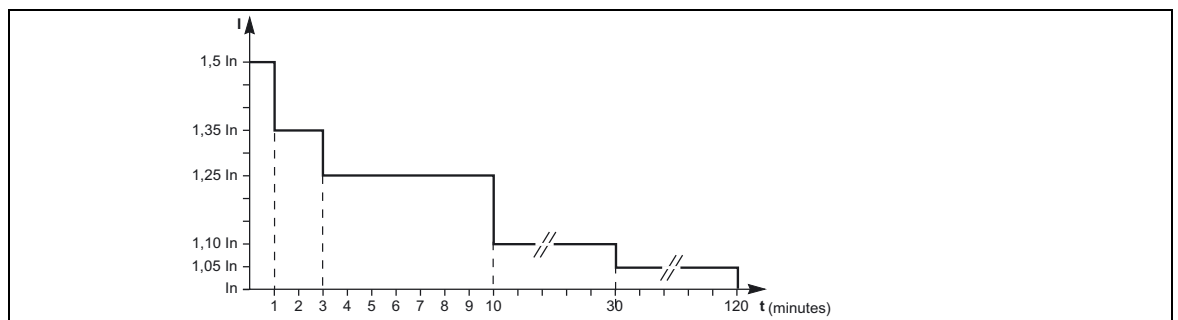

Fig. 17
– in the event of a small but extended overload (i.e. a continuous level of power exceeding the full rated load), the inverter will continue to supply power for a period depending on the magnitude of the overload (10 minutes for a 125 % overload, 1 minute for a 150 % overload). See figure 17 (Overload curve);
- green "load protected" light (5) off,
- buzzer (1) on,
- red "load not protected" light (2) on.
- in the event of a small but extended overload (i.e. a continuous level of power exceeding the full rated load), the inverters will continue to supply power for a period depending on the magnitude of the overload (10 minutes for a 125 % overload, 1 minute for a 150 % overload, see figure 17), and then stop;